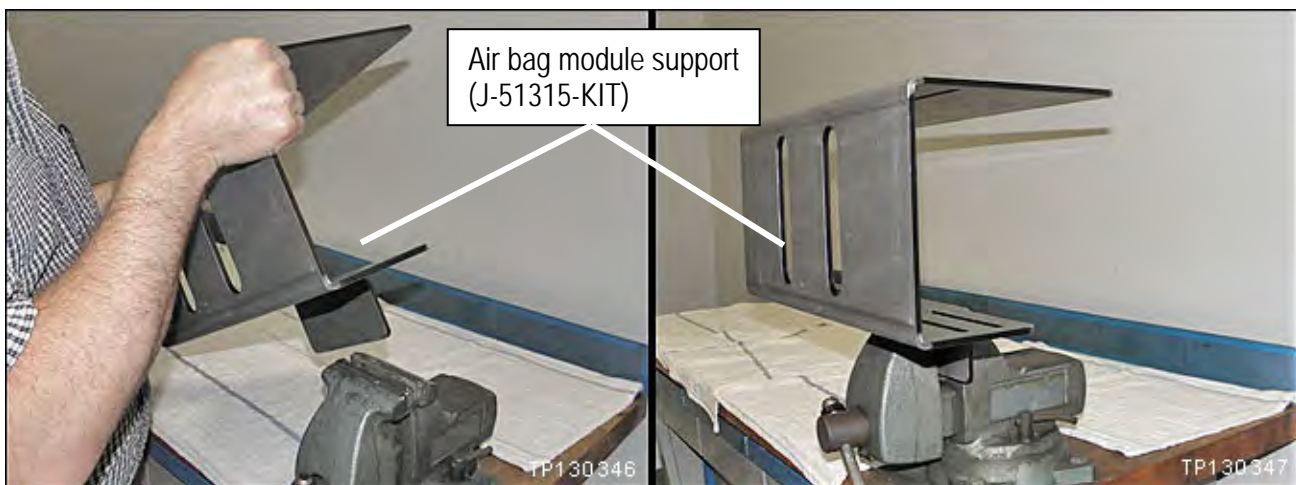

Figure 7
8. Securely mount the air bag module support (support) in a vise (see Figure 7).